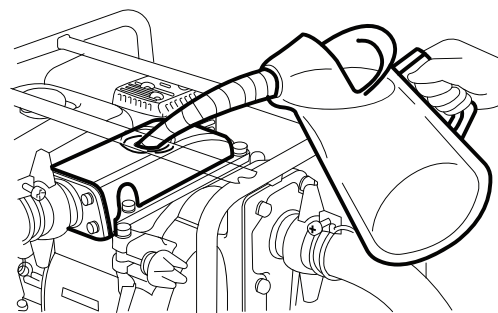

FIGURE-7
5.3.4 After engine warm up, move the throttle lever to the operating speed. (Figure- 7)